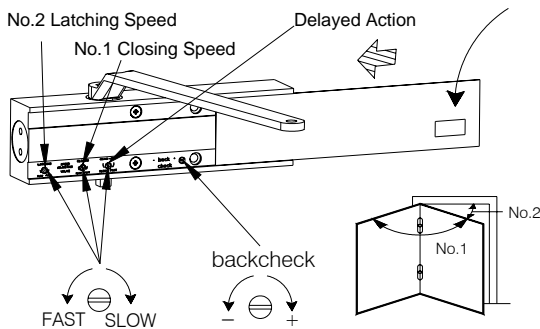

Fig. 6
7. Check for correct closing & latching speeds and adjust if necessary. Adjust backcheck as required. (See Fig. 6)
8. Stick easi-exit logo onto indent of slide plate and refit to door closer. (See Fig. 6)